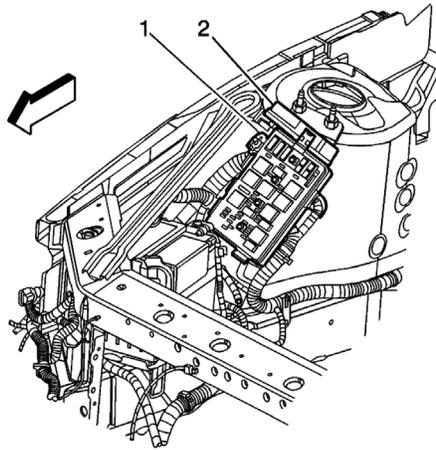

Fig. 3 Underhood junction block cover
9. Lift cover from underhood junction block (2) to access positive cable nut, **Fig. 3**.
10. Remove positive battery cable nut, and position cable (1) away from junction block, **Fig. 3**.